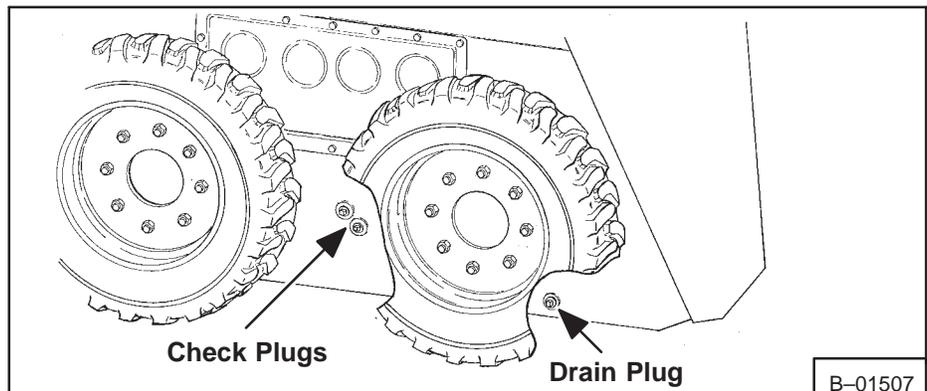

Fig. 1-3 Reservoir Check and Drain Plugs
Check oil level every 50 hours of operation, on a level surface. When low add approved oil and fill to the upper check plug (Fig. 1-3).
3. Remove drain plug (Fig. 1-3) for water to run off .